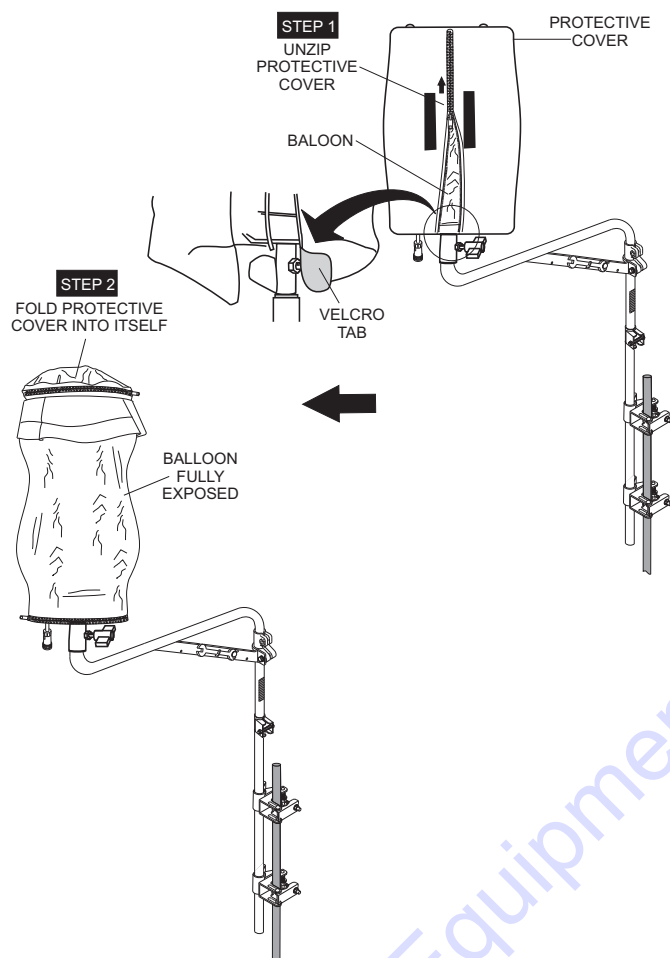
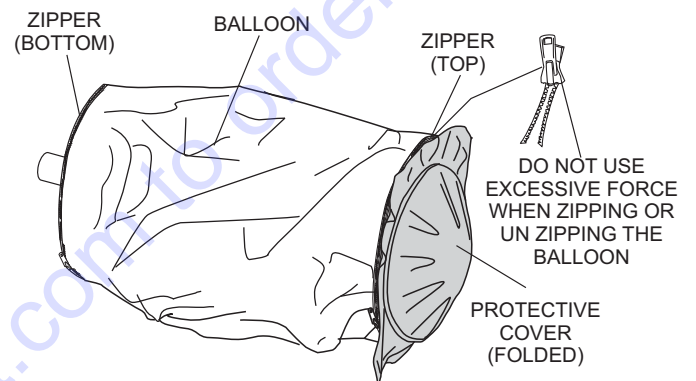
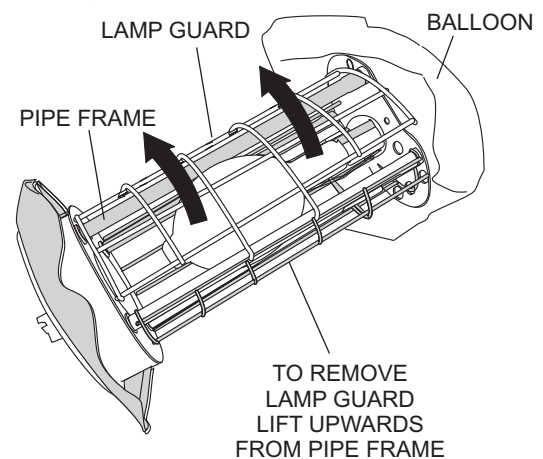

Figure 7. Folding Protective Cover
Figure 19. Exposing the Balloon
Figure 20. Removing the Lamp Guard
1. Expose the balloon by pulling down on the velcro tab and unzip the protective cover as shown in Figure 7.
1. Expose the balloon (Figure 19) by pulling down on the velcro tabs and unzip the protective cover as shown in Figure 7. Next, fold the protective cover into itself and zip
2. Unzip the zipper (Figure 19) at the bottom of the balloon and roll the balloon envelope upwards to expose the lamp (Figure 20). Remove the lamp guard to gain access to the lamp. **DO NOT** use excessive force when unzipping the balloon.
2. Zip up the zipper at the bottom (Figure 19) of the balloon and pull down the balloon envelope to cover the lamp